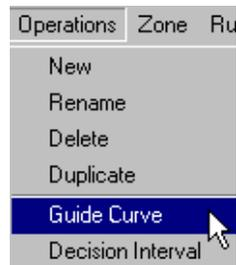
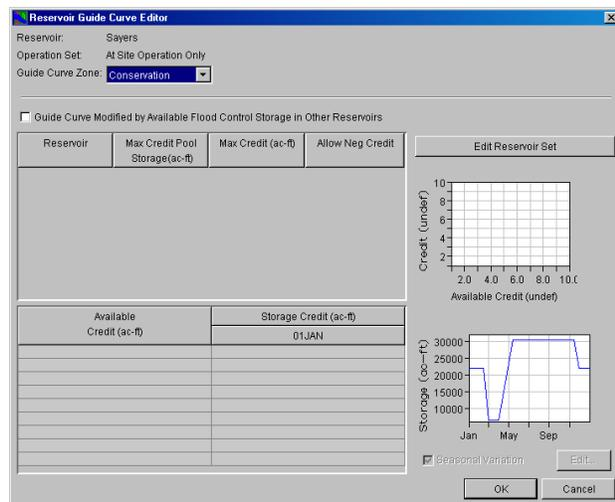

Figure 11.55
Figure 11.56 Reservoir Guide Curve Editor
1. Select **Guide Curve** from the **Operations** menu of the Reservoir Editor (Figure 11.55). The **Reservoir Guide Curve Editor** will open (Figure 11.56). The top portion of the editor is used for selecting the Guide Curve Zone while the bottom portion of the editor is used for defining Credit Storage for Flood Control (described in Section 11.9).
1. Select **Guide Curve** from the **Operations** menu of the Reservoir Editor (as previously shown in Figure 11.55). The **Reservoir Guide Curve Editor** will open (as previously shown in Figure 11.56).